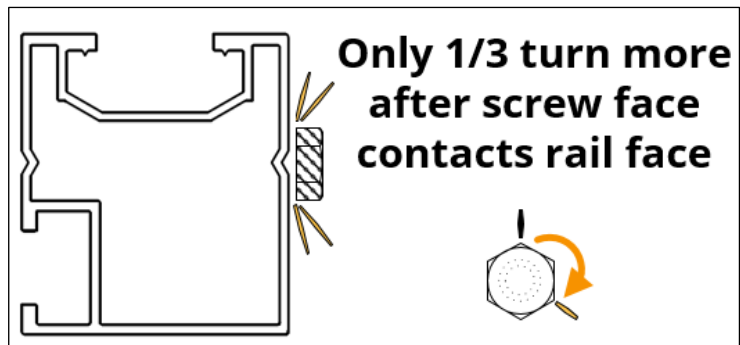

Fig. 2
1. Fit a splice halfway into a rail end, align the splice holes with the rail holes, secure the components so that they will not move, and then drive a splice screw through the aligned hole that is furthest from the rail end, stopping 1/3 turn after the screw face has contacted the rail face (Fig. 2). This method provides 40 +5/-0 in-lb (4.5 N-m) of torque. Use a torque wrench to verify and (if necessary) apply final torque to each screw.